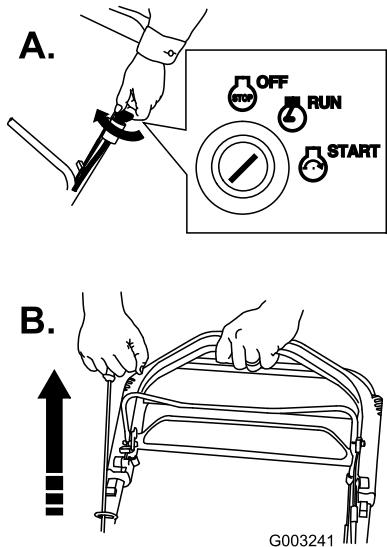

Figure 25
- Turn the ignition key to the Run position and pull the recoil starter in the operating position (Figure 25).